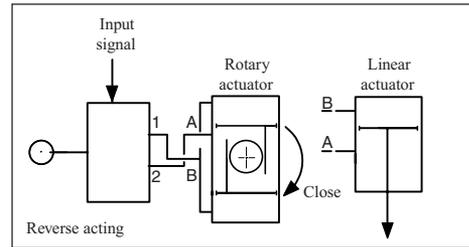

FIG. 8
1. Change the tubing (see FIG. 8)